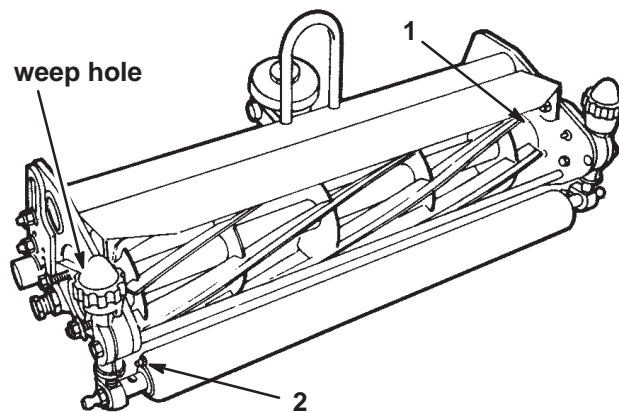

Figure 10
There are seven grease fittings on each cutting unit (Fig. 10 and 11) that should be lubricated immediately after washing to purge water out of the bearings and increase bearing life. Lubricate them using a No. 2 multipurpose lithium-based grease. For best results, use a hand-operated grease gun.
2. Grease the reel bearings (Fig. 10) until grease comes out of the weep hole.
3. Apply grease to the front and rear roller bearings (Fig. 10 and 11) until it begins to show around the seal lips.